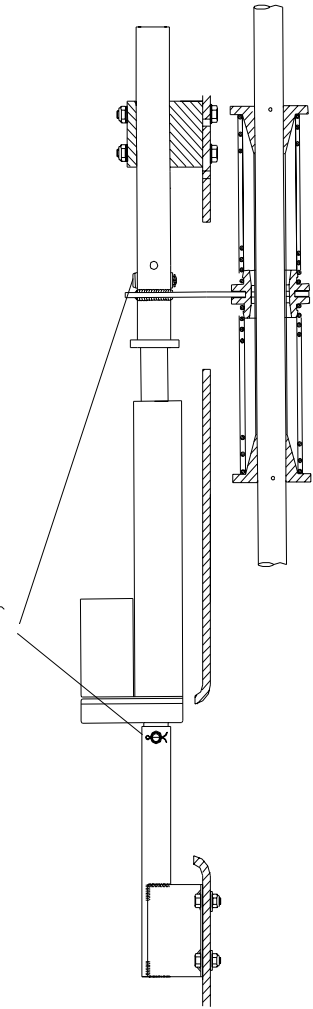

Figure 3
- 10.2.3** Remove the lower and upper Trim actuator attachment pins (discard cotter pins) and position the actuator so as to gain access to the upper mounting hardware on the rudder support bracket. See Figure 3.